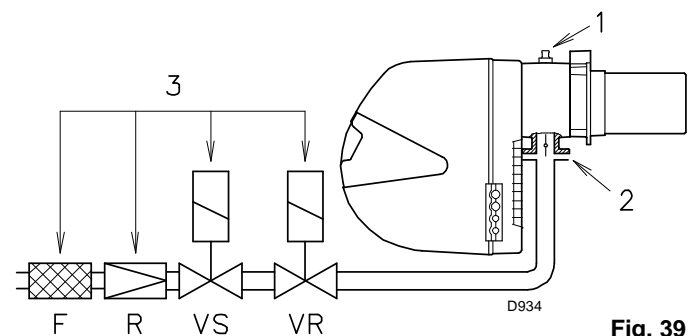

Fig. 39
Gas pressure measured at the test point 1)(Fig. 39), with:
Load loss at gas butterfly valve 2)(Fig. 39) with maximum opening: 90°.
Load loss at train 3)(Fig. 39) including:
- Subtract the combustion chamber pressure from the gas pressure measured at test point 1)(Fig. 39).
- Gas pressure at test point 1)(Fig. 39) = 8 mbar
To know the required gas pressure at test point 1)(Fig. 39), set the MAX output required from the burner operation:
- Read, on the right column (1) the socket pressure 1)(Fig. 39).
- pressure required at test point 1)(Fig. 39).